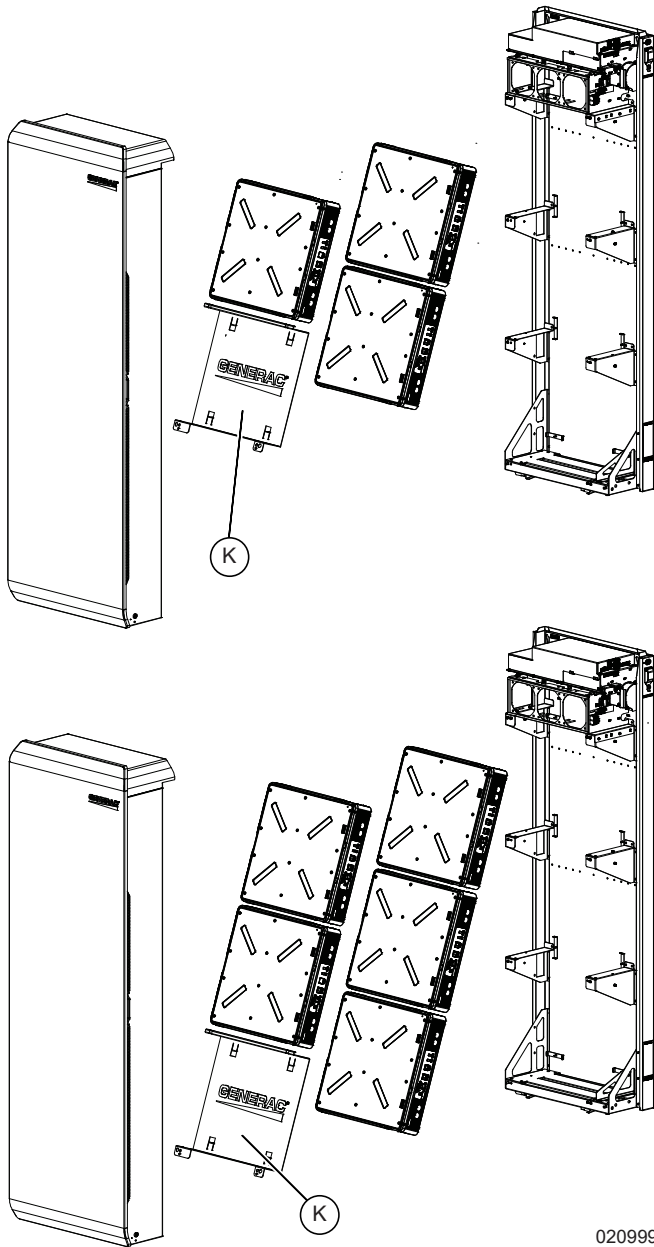

Figure 4-17. Installing Module Spacer
See Figure 4-17. A module spacer (K) must be installed in the front position on a module shelf where battery module is only installed in the rear position.